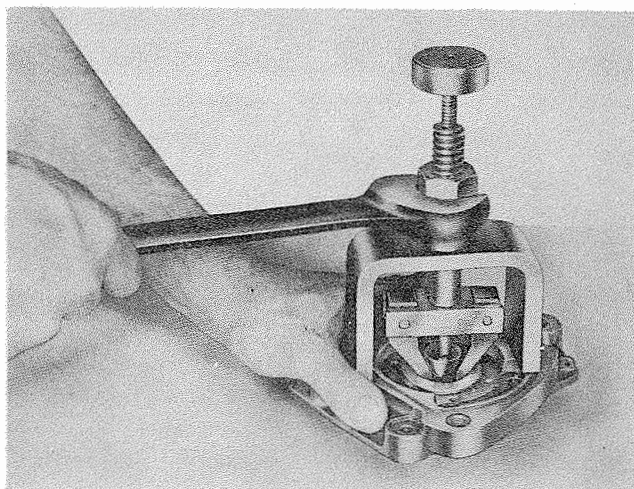

Figure 7-90. Distributor Drive Oil Seal Puller
- Remove the oil seal from the adapter using puller 806991 (figure 7-90).